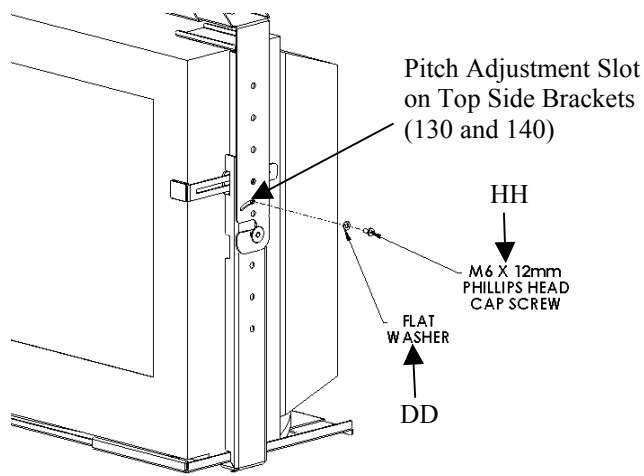
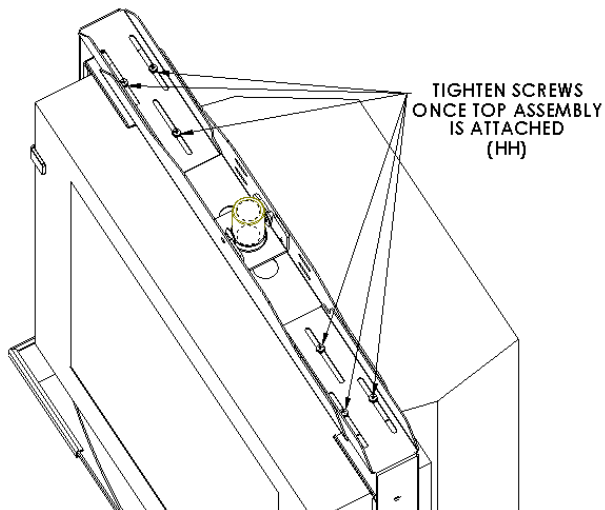

Figure 16. Fasten Center Tray
Figure 17. Tighten Screws on Center Tray
3. Firmly fasten the top assembly to the bottom assembly by inserting two M6 X 12mm cap screws (HH), and two flat washers (DD) into the pitch adjustment slots above the mounting buttons. See Figure 16.
4. Make sure both top side brackets (130 and 140) are parallel with the bottom side brackets (40), leaving the mount with 0-degrees of pitch. The pitch will be adjusted in a later step.
5. Tighten the six screws (HH) on the LH and RH brackets (130 and 140). See Figure 17.